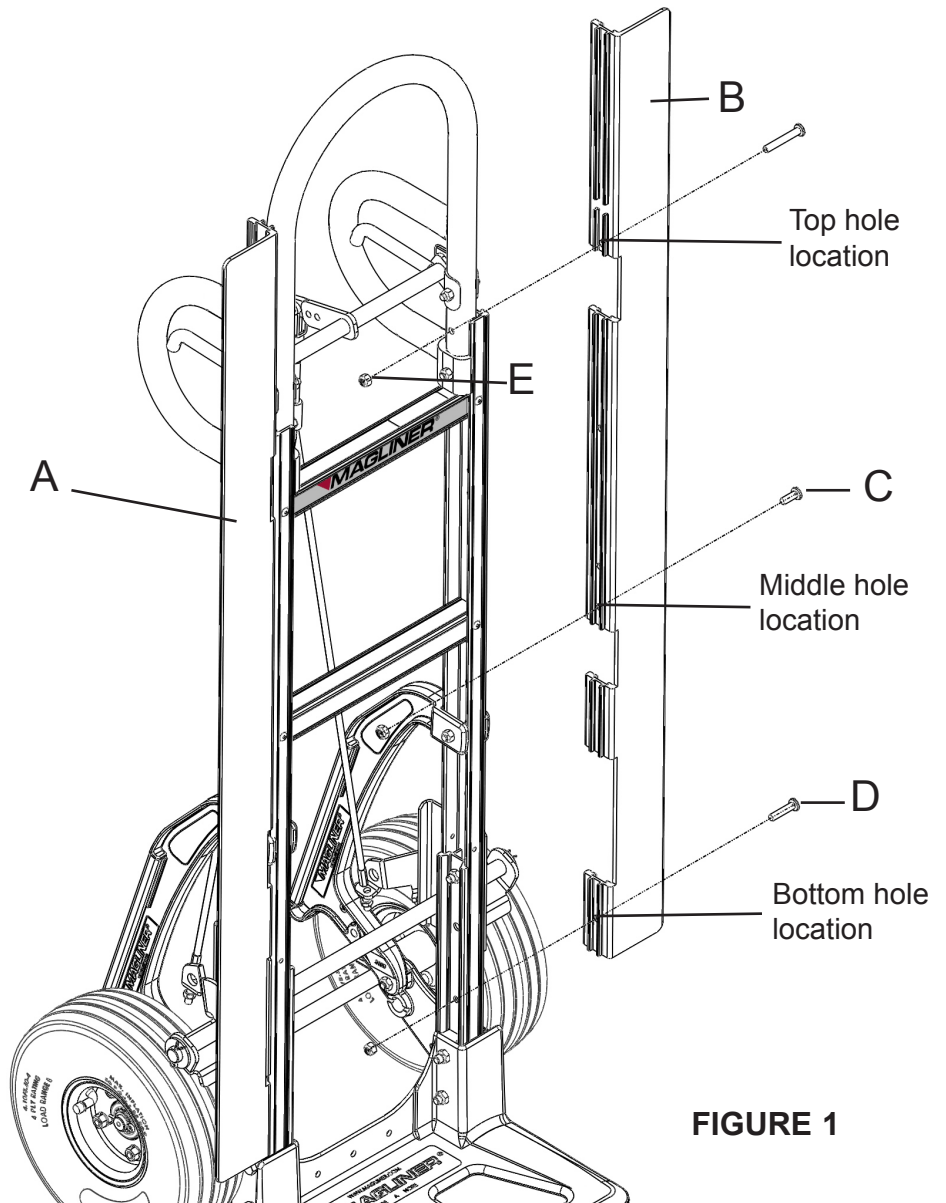

FIGURE 1
- a. Locate the bottom mounting hole approximately 1" from the end. Use light blows with a hammer to pierce one 1/4"-20 screw (D) through the red stripe.
- b. Locate the middle mounting hole first above the middle cutout area in the wing. Use light blows with a hammer to pierce one 1/4"-20 screw (C) through the red stripe.
2. Assemble wings to each side (see Figure 1).
- b. Insert two 1/4"-20 pan head screws (F) through the upper two holes in the wing, hand truck frame and handle. Finger tighten with 1/4" lock nuts (E). NOTE: There may be excess hardware included in kit. Please use the parts list chart to determine correct screws for your handle choice.
- c. Insert one 1/4"-20 x 3/4" long pan head screw (C) through the first mounting hole located above the wing's middle cutout and hand truck frame. Finger tighten with 1/4" locknut (E).
- d. Insert one 1/4"-20 x 1-1/4" long pan head screw (D) through the bottom wing mounting hole, hand truck frame and frame reinforcement. Finger tighten with 1/4" locknut (E).
1. Align the RH wing with the right side of the truck frame (see Figure 1).
2. Using a 5/16" drill bit and electric drill, and the existing holes in the wing labeled in Figure 1 as a guide, drill holes through the truck frame channel.